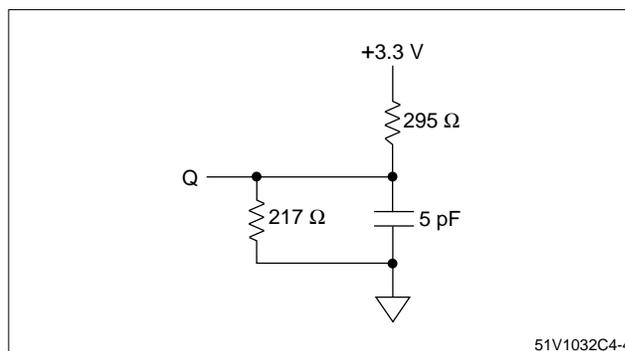

Figure 4. Output Load Equivalent
2. Output loading is specified with CL = 5 pF as in Figure 4. Transition is measured ±500 mV from steady state voltage.